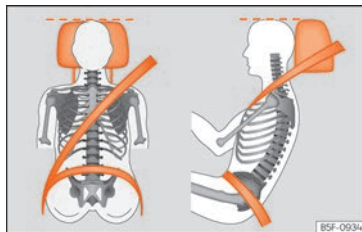

Fig. 4 Correct belt web and headrest positions
- Adjust the headrest so that its upper edge is at the same level as the top of your head, or as close as possible to the same level as the top of your head and under no circumstances below eye level. Keep the back of your neck as close as possible to the headrest »» Fig. 4.